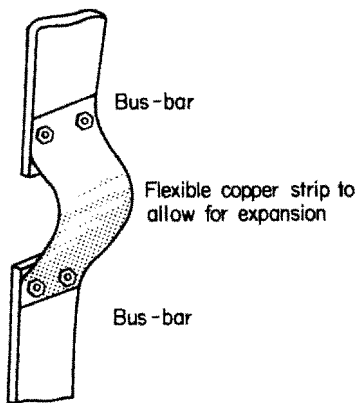

Fig. 14.37
- 5 Bus-bars must be free to expand and contract with variations in temperature (Fig. 14.37).